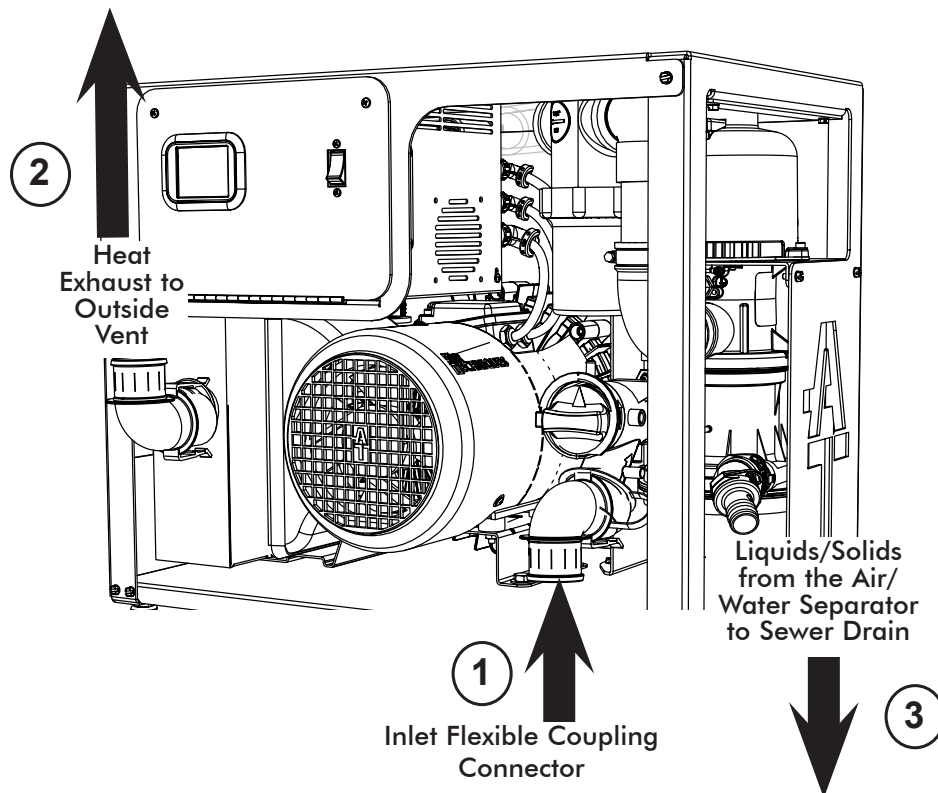

Figure 7. MOJAVE LT Plumbing Connection
Installation Layout Space. Figure 6 shows the requirements for the installation of MOJAVE LT. Please note that all units are shipped with leveling feet set to lowest position. Heights can be increased by 1 inch by adjusting the leveling feet. Refer to Figures 7 and 8 for connection details.
MOJAVE LT Connection Procedure. Using industry standard techniques, make the three connections between the LT with supplied components from accessory kits Refer to Figure 7 for the connection diagram and perform the following procedure.
1. **Treatment Room Suction Line to Pump Inlet Connection.** Refer to Figure 7, item (1) .
2. **Heat Exhaust Connection.** Refer to Figure 7, item (2) for the location of the vent hose connection at the pump heat exchanger output and the facility vent line. Make the heat exhaust connection by performing the following procedure.